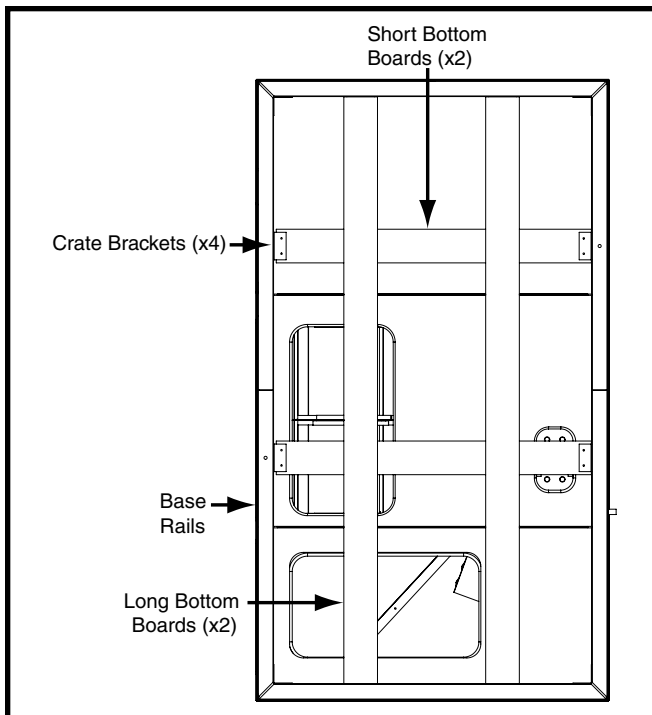

Figure 4. Bottom View
4. Remove crate brackets securing long and short bottom boards to underside of unit. See Figure 4 (page 5). **NOTE:** Some screws are located in fork slots.